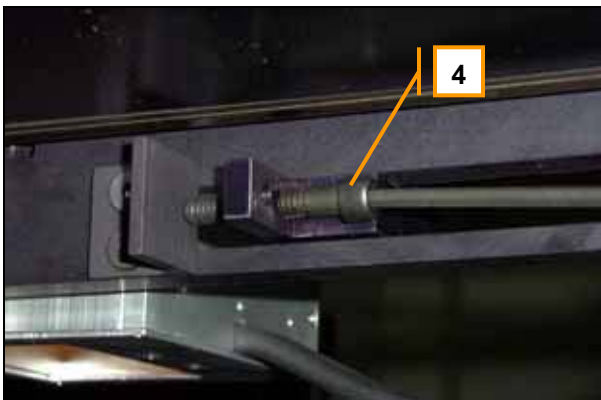

Figure 39: Optics train stop adjustment
2. Remove the nozzle and vacuum tip (Fig. 29) and install the calibration tip (2). Adjust the optics train stop according to Figure 39 if necessary.